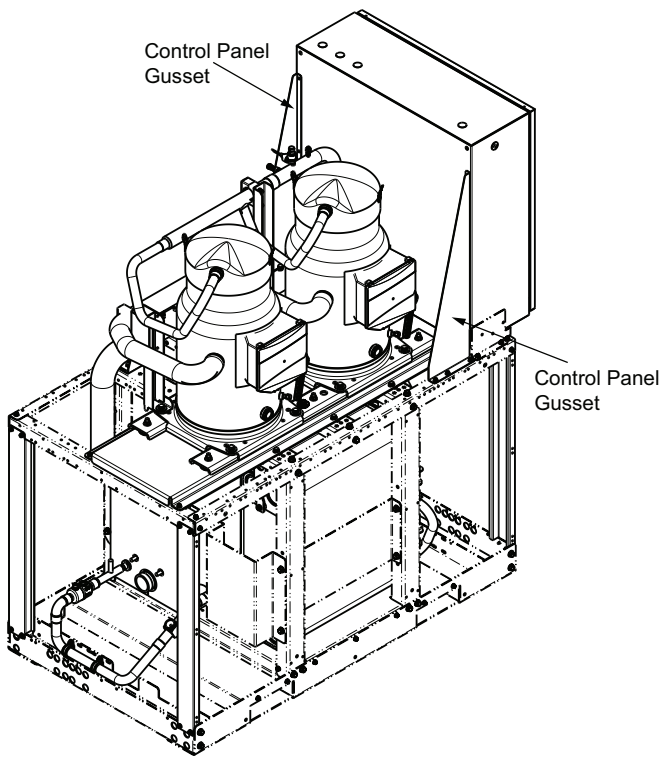

Fig. 3 — Control Box Gusset Removal
NOTE: Corner panels replace gussets using same screw holes. See Fig. 3 and 4 for gusset removal and screw hole locations.
1. Remove the 2 triangular gussets that are mounted to the control panel and discard. Each gusset is mounted with 2 screws located inside the control panel and 2 screws to the unit frame. See Fig. 3 and 4 for gusset removal and screw hole locations.